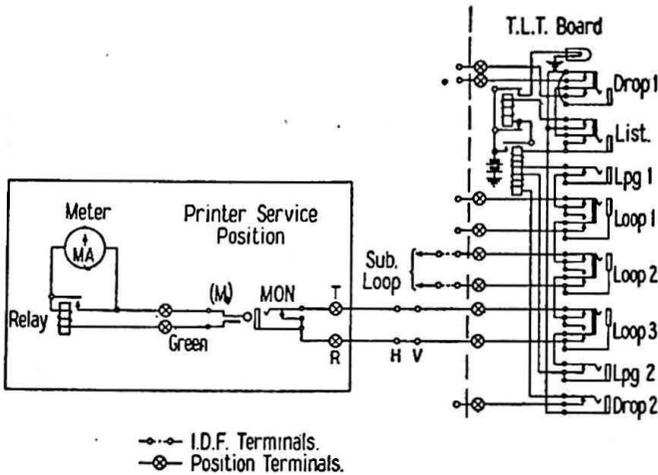

Fig. 7.—Schematic showing circuit arrangement when the meter is used.
- 3.13 The circuit arrangement is shown in Figure 7.